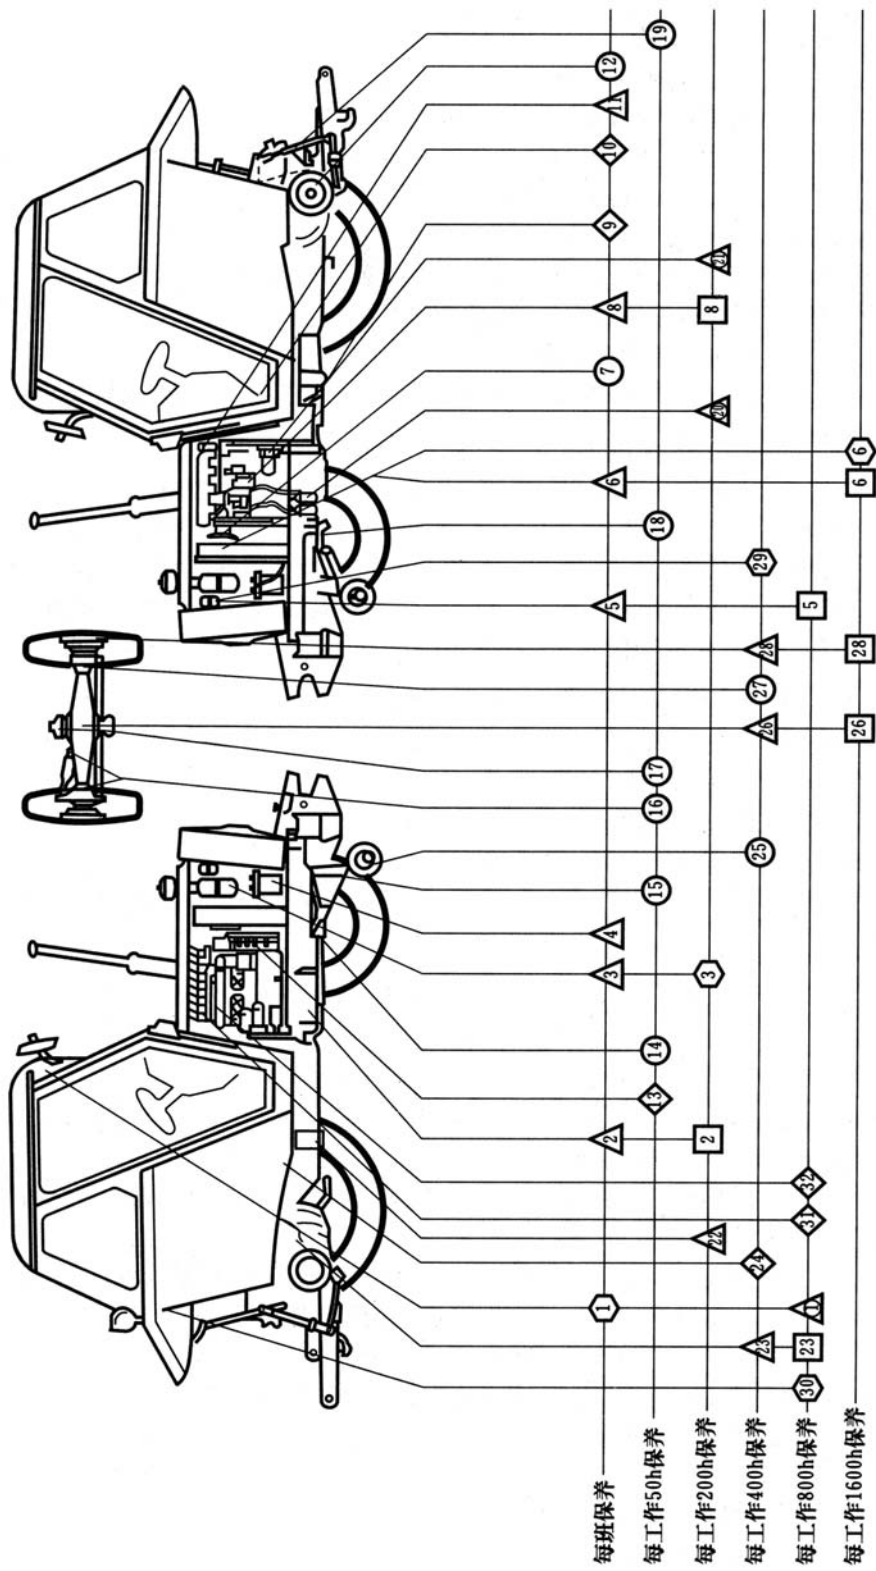

Fig. 5-1 Maintenance for whole machine
- (1) Clean dusts and mud away from the tractor.
- (2) Check tractor's external fitting nuts and bolts, especially to see if the nuts on front and rear wheels are loose.
- (3) Check the fluid levels of water tank, fuel tank, steering oil tank and brake oil tank. Add the fluids in case of insufficiency.
- (4) Grease up as per maintenance table 5-1 according to Maintenance Fig.5-1.
- (5) Check and adjust the height of main clutch pedal and stroke of PTO shaft.
- (6) Check air pressure of front and rear tyres, inflate according to rules in case of insufficiency.
- (7) Check against air leakage, oil leakage or water leakage. Shoot the trouble if found.
- (8) Verify normal work of lamps, horns and meters.
- (9) Maintain diesel engine according to "Shift Technical Maintenance" stated in "Operation & Maintenance Manual of Diesel Engine" .
Refer to Fig. 5-1 and Table 5-1 for maintenance sites, steps and maintenance cycle